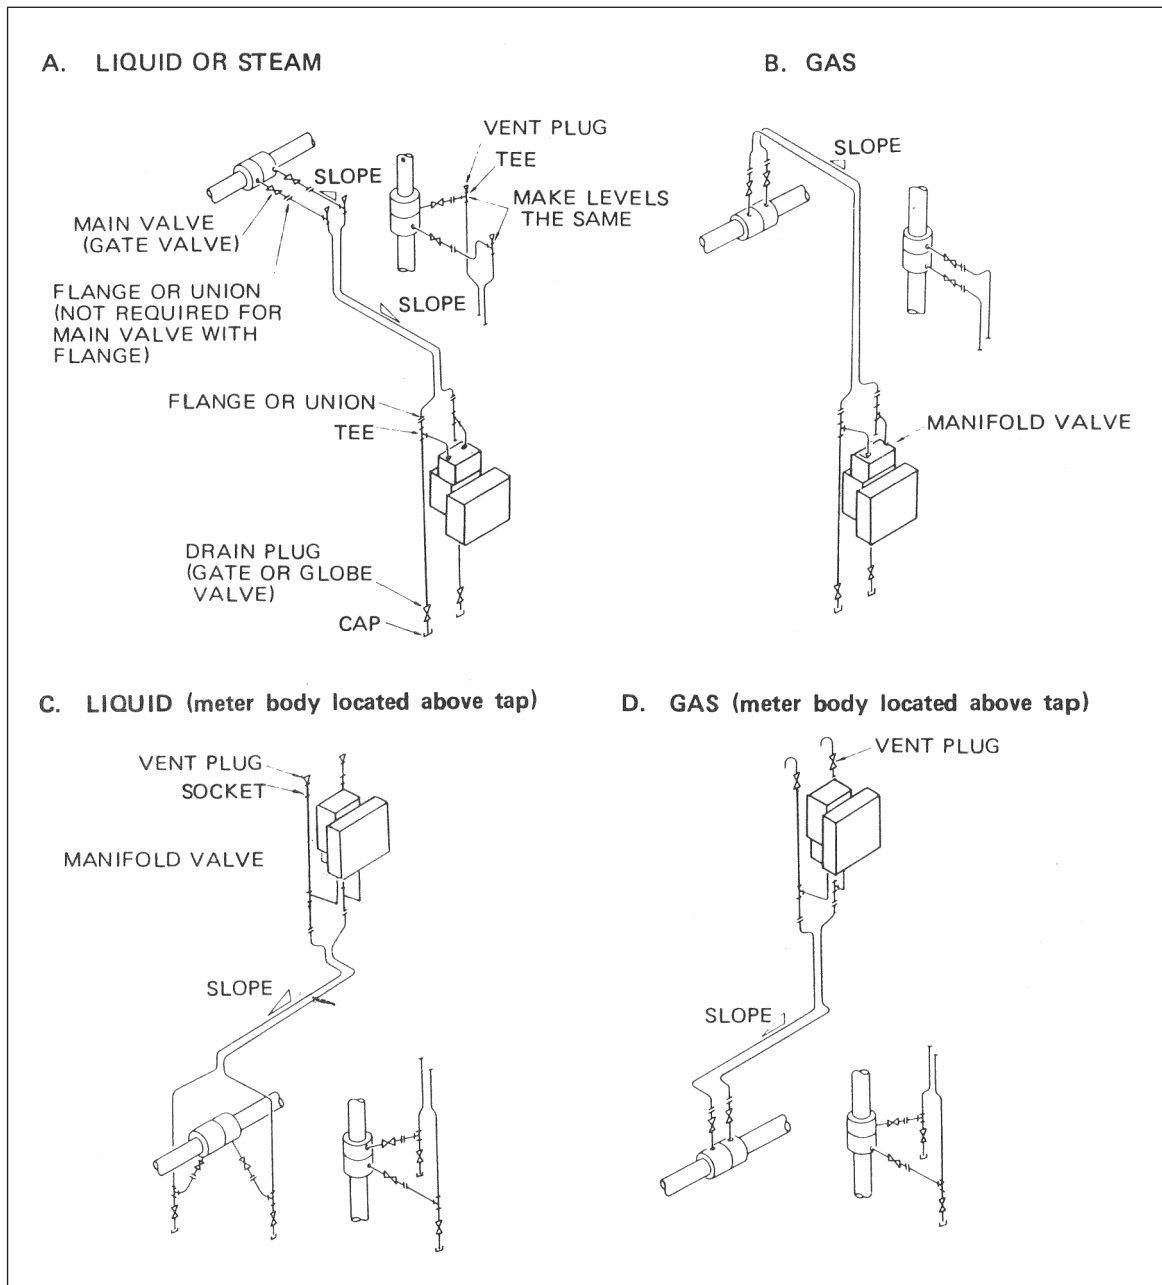

Fig. 3-8. Pressure Piping for Flow Measurement
- (5) For the pipes for pressure tapping from the process pipe, use pressure pipes of appropriate schedule number and nominal thickness. A typical example in 1/2-inch Schedule 80 steel pipe. For measurement of water or steam, copper pipes are used in general. Examples of pressure piping are shown in Fig. 3-8.